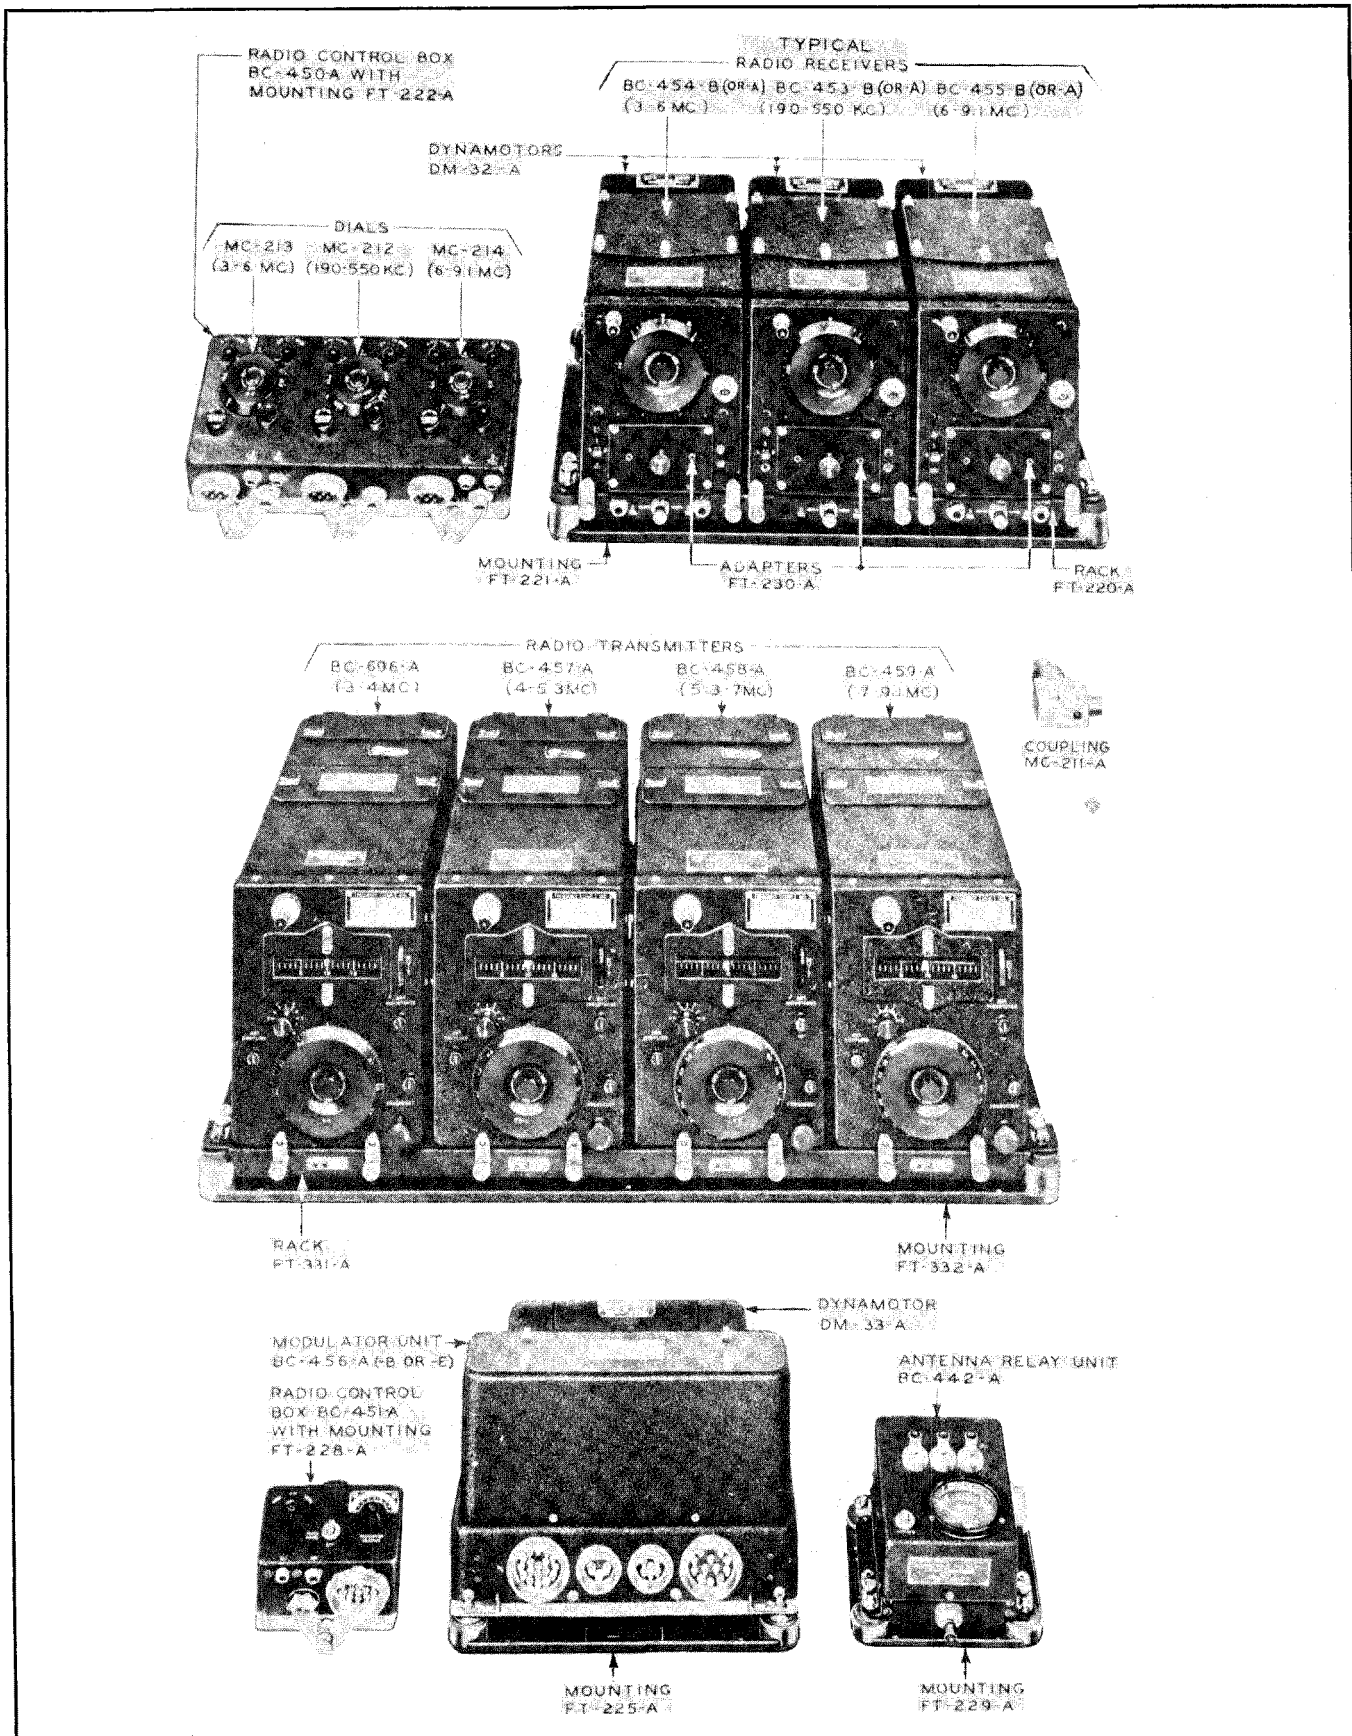

Figure 1-1. Radio Set SCR-274-N—Components
(See figure 1-1.)
a. RECEIVING EQUIPMENT. (See figures 1-1 to 1-11.)
(1) FOR THREE-RECEIVER INSTALLATION. The following parts are supplied for this type of installation: